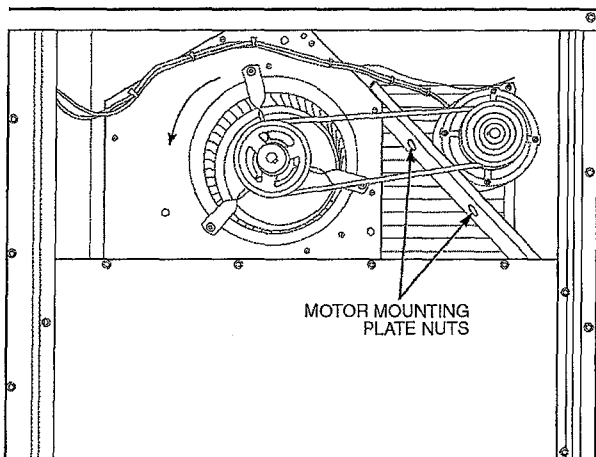

Fig. 45 — Typical Belt-Drive Motor Mounting for Size 008
2. Loosen belt by loosening fan motor mounting nuts. See Fig. 45 and 46.
2. *Size 008* — Slide motor mounting plate away from fan scroll for proper belt tension (1/2-in. deflection with one finger) and tighten mounting nuts (see Fig. 45).